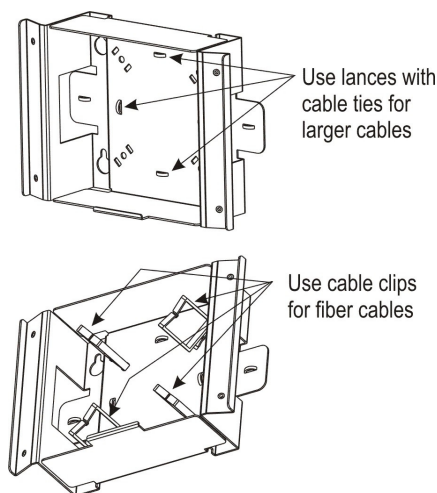

Figure 3. Cable Spooling Options
4.2 Cable Management (internal) The VMC03-000 has two sections that can separate to allow excess cable to be spooled. The back section is mounted to the wall and the internal compartment has an area for spooling excess cable. Either cable clips for fiber or cable ties for heavier cables can be used in this compartment. Refer to Figure 3 for reference.